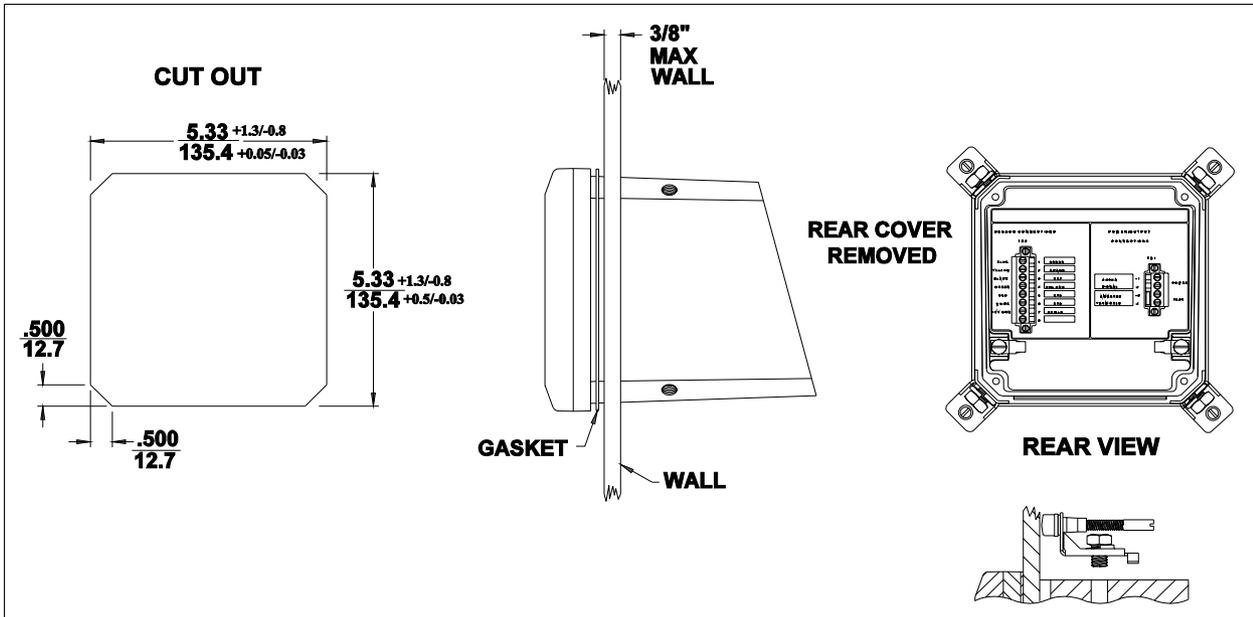

Figure 3-5. Panel Mount Installation Diagram
Using Figure 3-5 as a reference, mount the TB82TC transmitter as follows:
- 2) Cut a 135.4 mm x 135.4 mm hole with diagonal corners through the panel as shown in Figure 3-5;